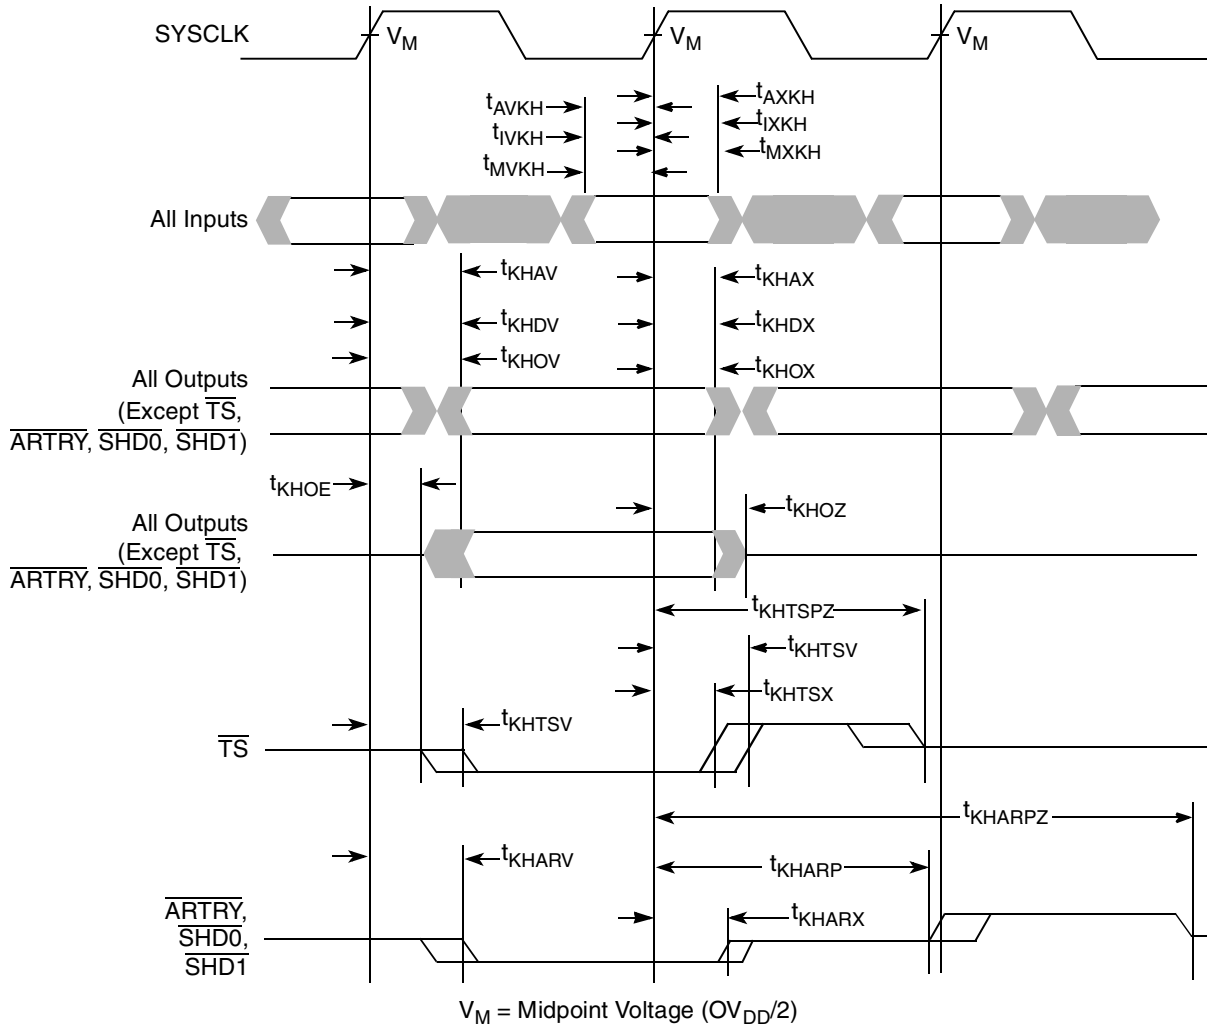

Figure 6. Input/Output Timing Diagram
- The symbology used for timing specifications herein follows the pattern of $t_{(\text{signal})(\text{state})(\text{reference})(\text{state})}$ for inputs and $t_{(\text{reference})(\text{state})(\text{signal})(\text{state})}$ for outputs. For example, $t_{\text{V_{KH}}}$ symbolizes the time input signals (I) reach the valid state (V) relative to the SYSCLK reference (K) going to the high (H) state or input setup time. And $t_{\text{KH_{OV}}}$ symbolizes the time from SYSCLK(K) going high (H) until outputs (O) are valid (V) or output valid time. Input hold time can be read as the time that the input signal (I) went invalid (X) with respect to the rising clock edge (KH) (note the position of the reference and its state for inputs) and output hold time can be read as the time from the rising edge (KH) until the output went invalid (OX).
- According to the bus protocol, $\overline{\text{TS}}$ is driven only by the currently active bus master. It is asserted low and precharged high before returning to high impedance, as shown in Figure 6. The nominal precharge width for $\overline{\text{TS}}$ is $0.5 \times t_{\text{SYSCLK}}$, that is, less than the minimum t_{SYSCLK} period, to ensure that another master asserting $\overline{\text{TS}}$ on the following clock will not contend with the precharge. Output valid and output hold timing is tested for the signal asserted. Output valid time is tested for precharge. The high-impedance behavior is guaranteed by design.
- According to the bus protocol, $\overline{\text{ARTRY}}$ can be driven by multiple bus masters through the clock period immediately following $\overline{\text{AACK}}$. Bus contention is not an issue because any master asserting $\overline{\text{ARTRY}}$ will be driving it low. Any master asserting it low in the first clock following $\overline{\text{AACK}}$ will then go to high impedance for 1 clock before precharging it high during the second cycle after the assertion of $\overline{\text{AACK}}$. The nominal precharge width for $\overline{\text{ARTRY}}$ is $1.0 t_{\text{SYSCLK}}$; that is, it should be high impedance as shown in Figure 6 before the first opportunity for another master to assert $\overline{\text{ARTRY}}$. Output valid and output hold timing is tested for the signal asserted. The high-impedance behavior is guaranteed by design.
Figure 6 provides the input/output timing diagram for the MPC7447A.